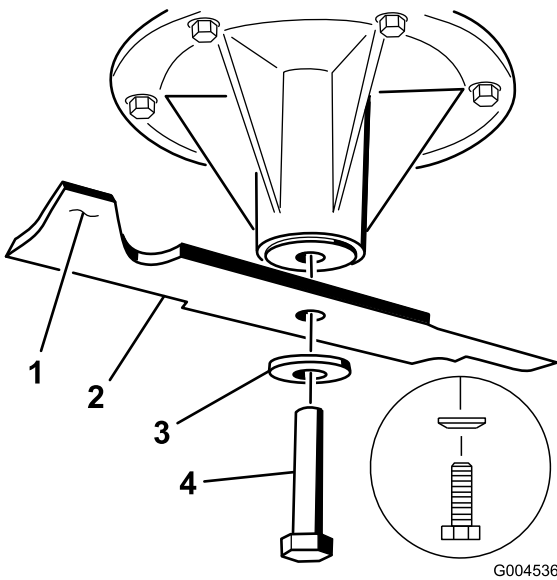

Figure 97
2. Remove the blade bolt, curved washer, and blade from the spindle shaft (Figure 97).